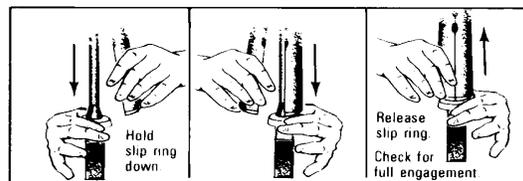

Figure 10-38. Placing the Hand Guards
- o. Put the hand guards in place (figure 10-38).